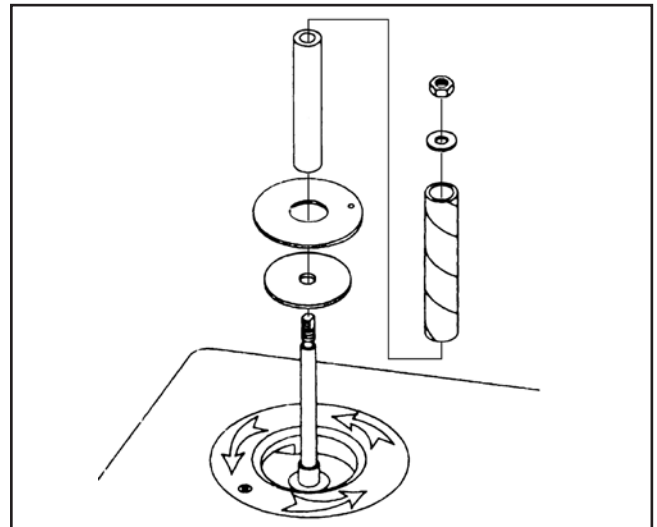

Figure 9. Sleeve installation order.
7. Install the desired rubber sanding drum on the spindle shaft, and install the matching sanding sleeve on the drum as shown in **Figure 9**.